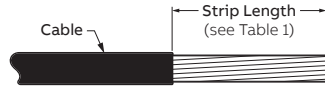

Figure 1
1. Strip the insulation from the cable to the length found in Table 1 (on reverse side) taking care not to nick cable strands (Figure 1).